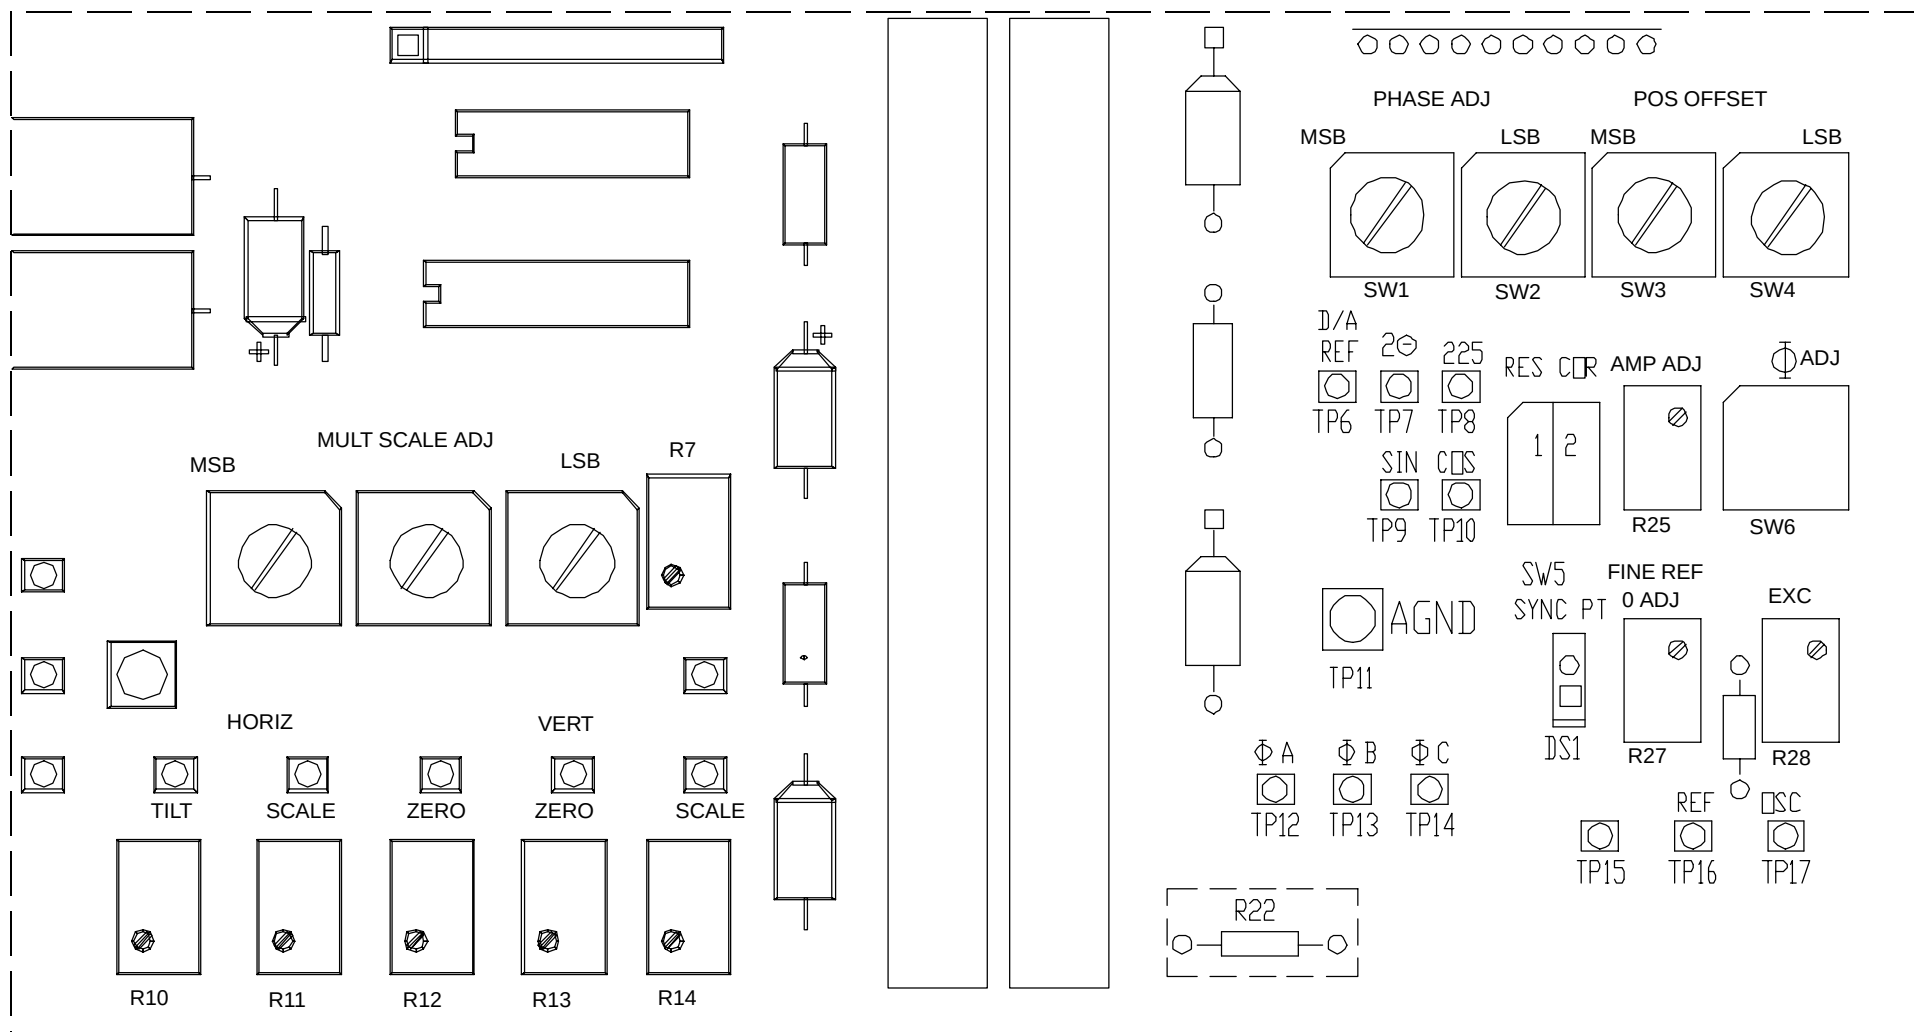

FIGURE 134 PMDC SWITCH SETTING LOCATIONS – (via access panel)
5. Refer to Figure 134 for switch and pot locations. Answer **NO** (0) to this question. The following will appear: